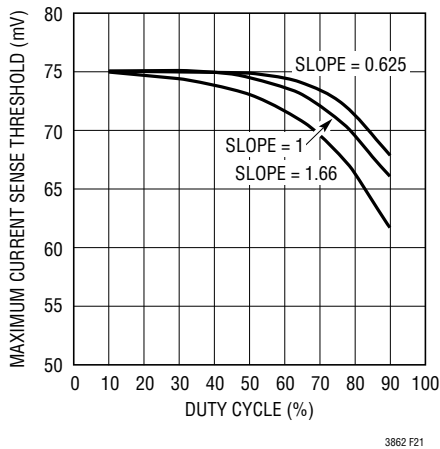

Figure 21. Maximum Sense Voltage Variation with Duty Cycle and Slope Gain
The peak sense voltage threshold for the LTC3862 is 75mV at low duty cycle and with a normalized slope gain of 1.00, and is measured from SENSE+ to SENSE-. Figure 21 illustrates the change in the sense threshold with varying duty cycle and slope gain.
11. The maximum current sense threshold for the LTC3862 is 75mV at low duty cycle and a normalized slope gain of 1.0. Using Figure 21, the maximum sense voltage drops to 73mV at a duty cycle of 51% with a normalized slope gain of 1, so the sense resistor is calculated to be: